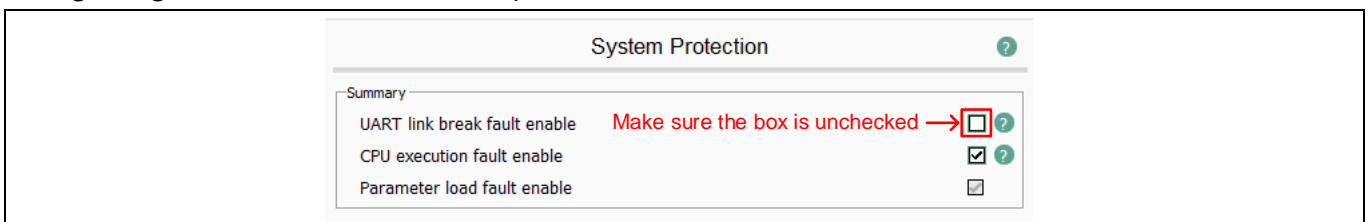

Figure 10 "UART link break fault" in the "System Protection" section in iSD
7. "UART link break fault" is only applicable to a use case where User UART Protocol is selected. When using Configurable UART function, it is imperative to disable "UART link break fault" option in the "System Protection" section in iSD as shown in Figure 10 to avoid triggering that fault. For more information regarding the "UART link break fault", please refer to [1] and [2].